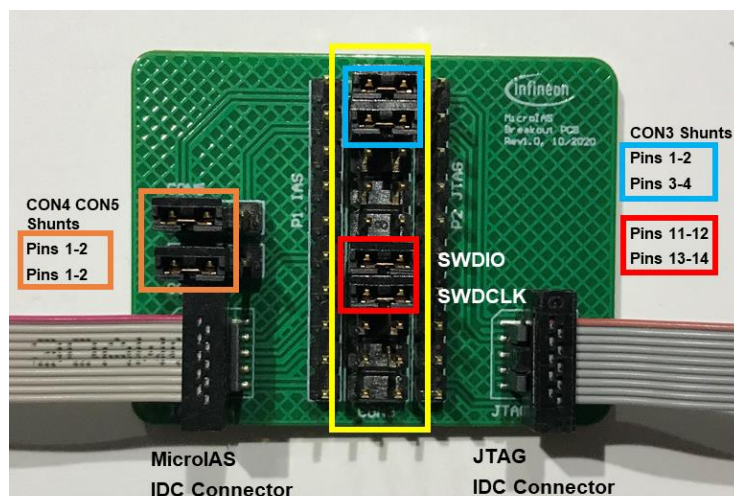

Figure 6b: Breakout Board Setup for Programming
Ensure that your system is properly setup for programming and UART communications. Figures 6b and 6c depict the breakout board setup for both options respectively.
- Although all IDC connectors on breakout and MicroIAS boards provide proper directionality (they can only be plugged in one direction), make sure that the IDC cable pin 1 indicators (red wire of the ribbon cable) line up as shown in Figure 6b.